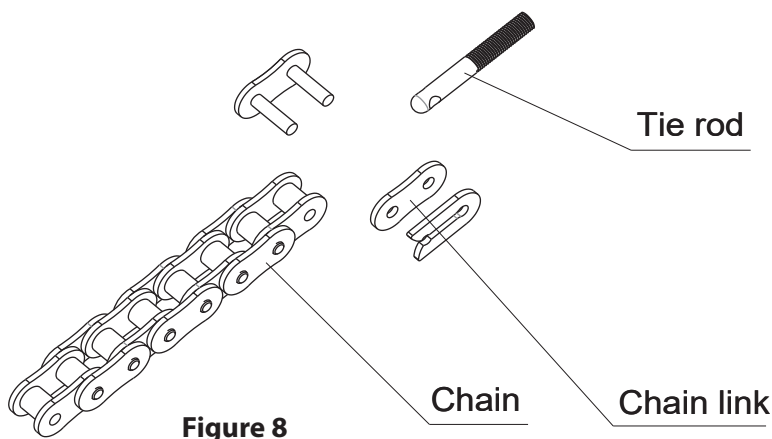

**Figure 7**
- e. Unlock the main engine before installation, the unlock method is: take out the key cover, insert the key, and open the manual release bar till it rotates by  $90^\circ$  as shown in Figure 7. Then turn the output sprocket and the sprocket can be rotated easily;